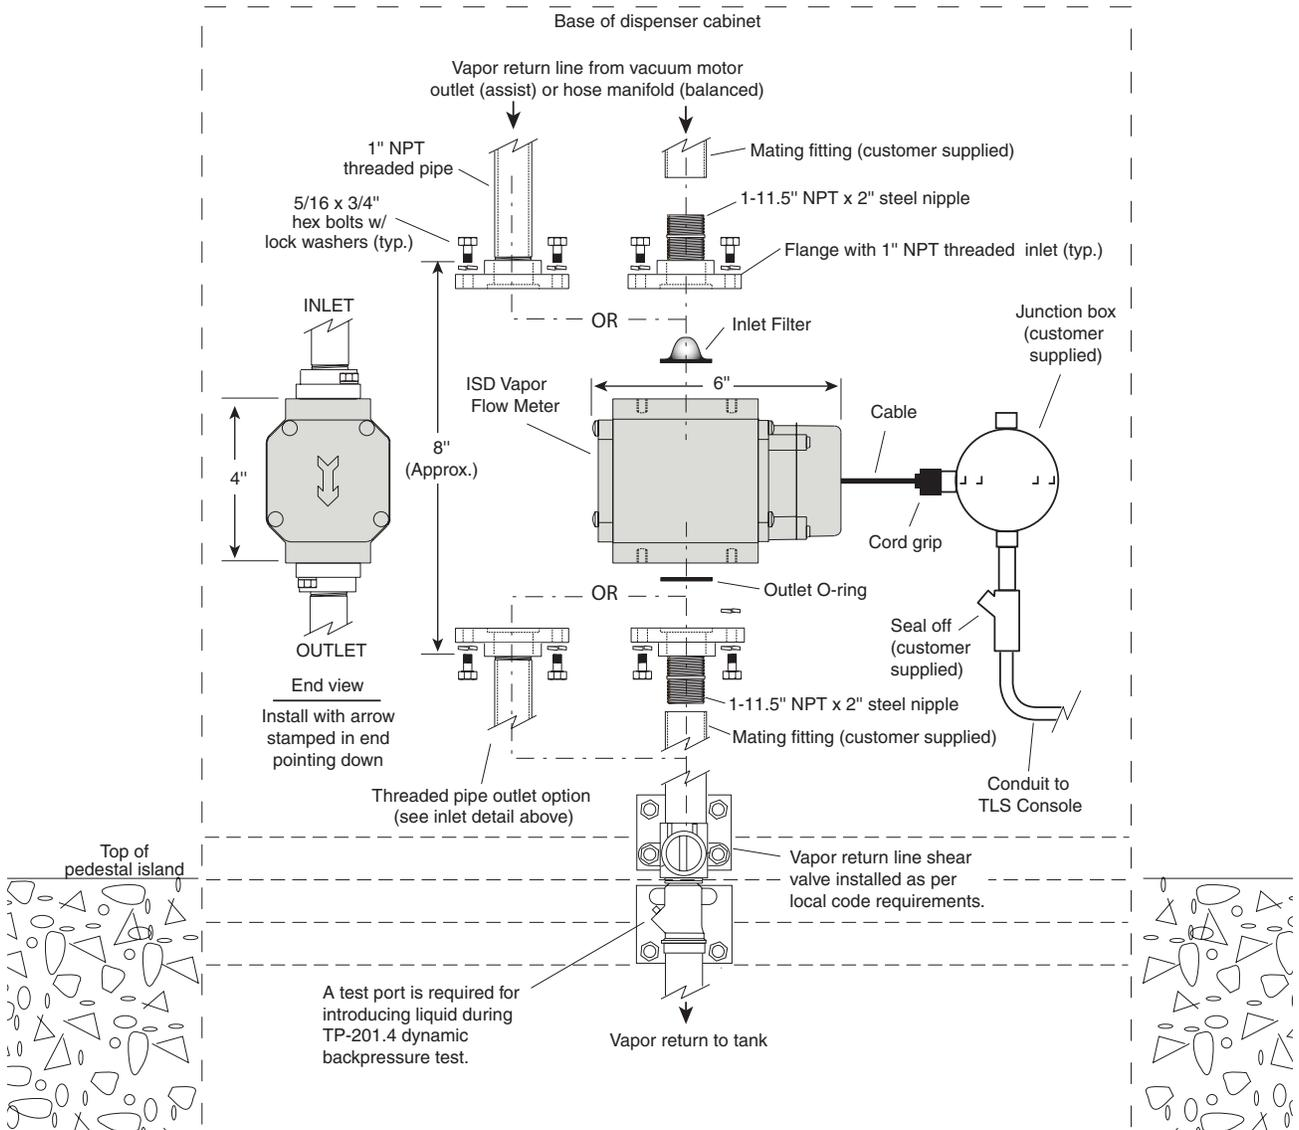

Figure 1. Example Vapor Flow Meter Installation Above Shear Valve
| Figure 1. | Example Vapor Flow Meter Installation Above Shear Valve .....      | 5  |
4. Disconnect the factory installed plumbing between the outlet of the vacuum motors and the field installed plumbing above the vapor shear valve, if present (see example installation in Figure 1). Retain the manufacturers installed piping for later use.